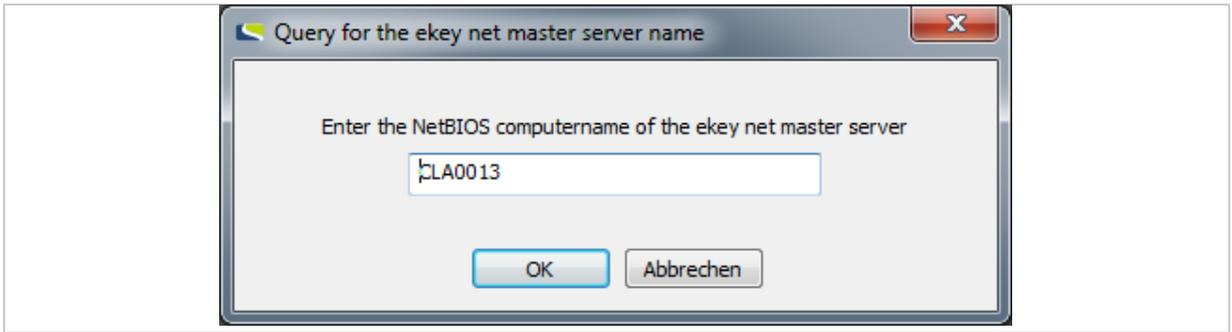

Fig. 11: QUERY FOR THE EKEY NET MASTER SERVER NAME
8.	If a dialog querying the name of the ekey net master server appears, enter the NetBIOS computer name for the ekey net master server that you wish to connect to the ekey net terminal server (see "Fig. 11: QUERY FOR THE EKEY NET MASTER SERVER NAME ", page 21).